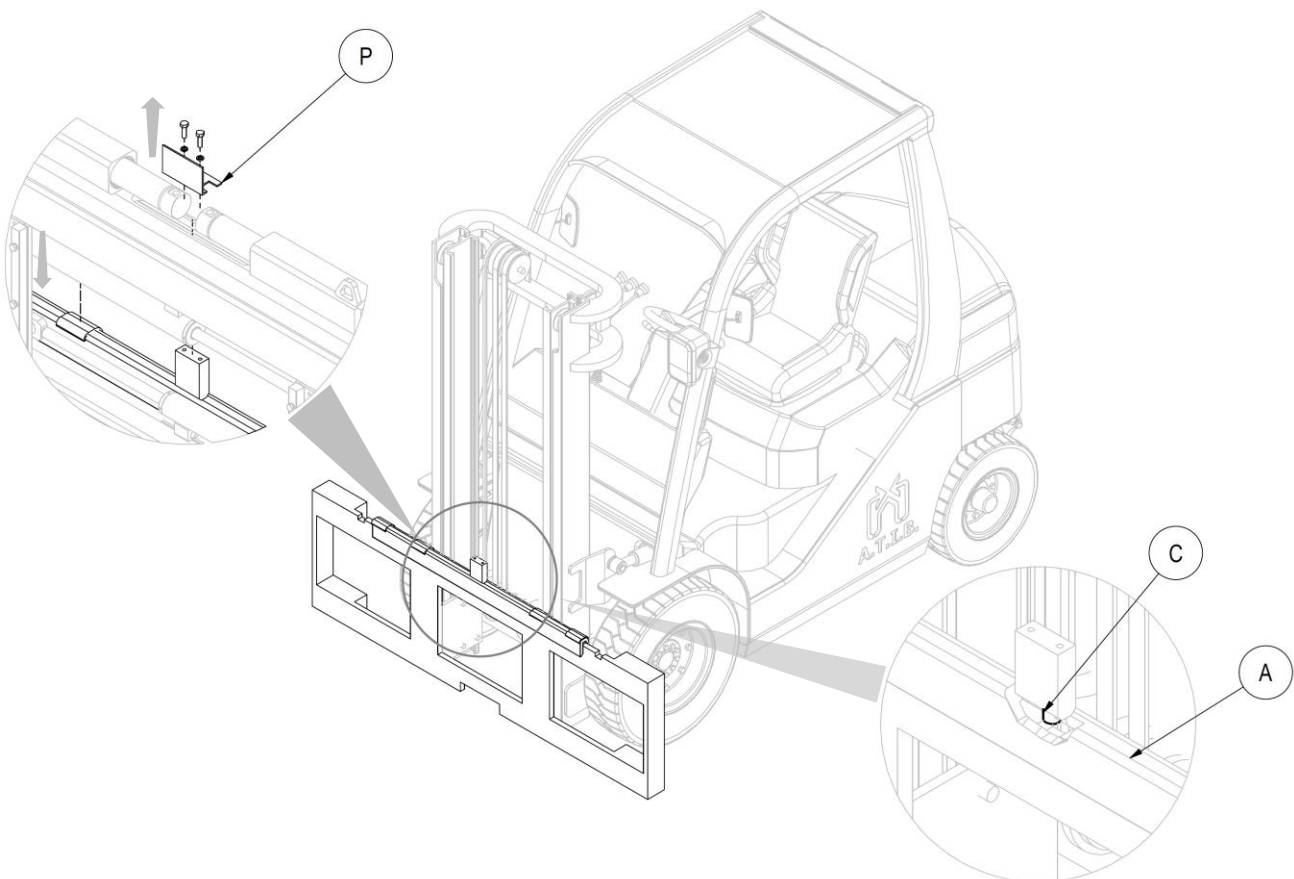

Figure 5
4. After removing the protection bracket (**P**) with its bolts, manually obtain the dual coupling **A** (with its sliding bushes), and position it on the upper profile of the fork carriage, taking care to fit the centring pin **C** into the central notch of the fork carriage (see *Figure 5*).